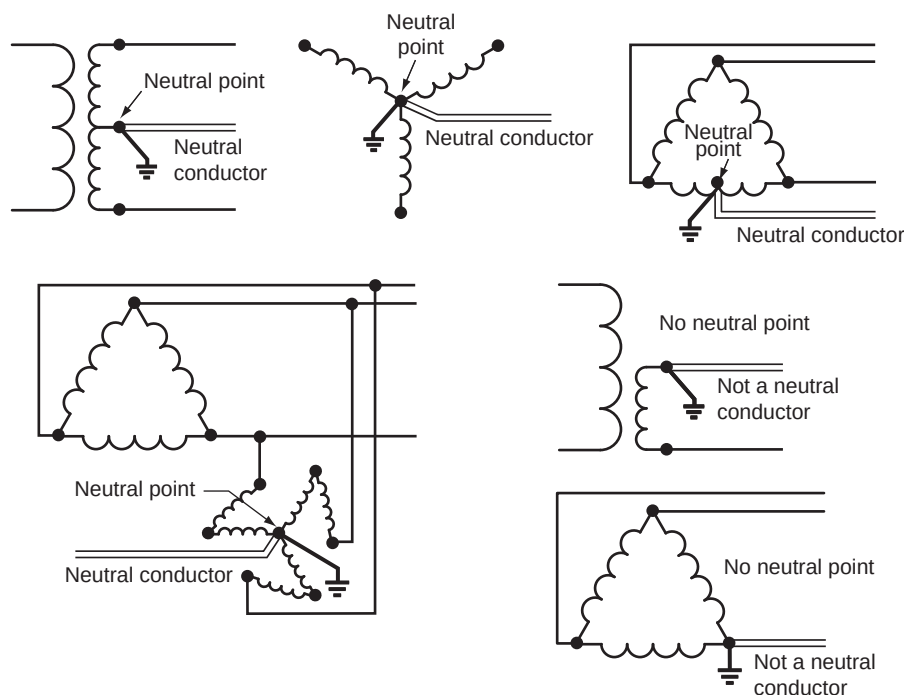

FIGURE 2-12 Neutral point and neutral conductor. (Delmar/Cengage Learning)
- **Neutral Conductor.** *The conductor connected to the neutral point of a system that is intended to carry current under normal conditions.* See Figure 2-12. It is important to note that in this definition, the neutral conductor is expected to carry current under normal conditions, whereas the equipment-grounding conductor is expected to carry current only under abnormal conditions. Both connect to the neutral terminal bar at the service or source of a separately derived system.*
system; or midpoint of a 3-wire, direct-current system. See Figure 2-12.*
Electricians might use the term *neutral* or they might use the term *neutral conductor* when referring to the grounded circuit conductor. The lower two drawings on the right in Figure 2-12 show the location of a grounded conductor that is not a neutral.